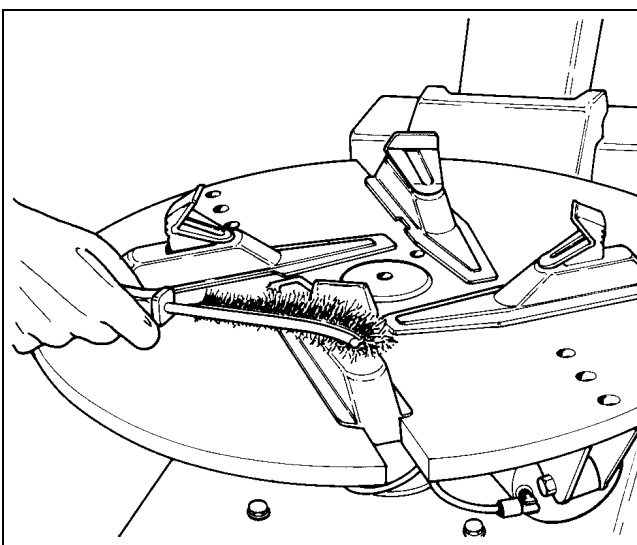

Fig.28
C. Clean every week the teeth of the clamps with a wire brush, check the plastic rim protector and replace it if worn (Fig.28).